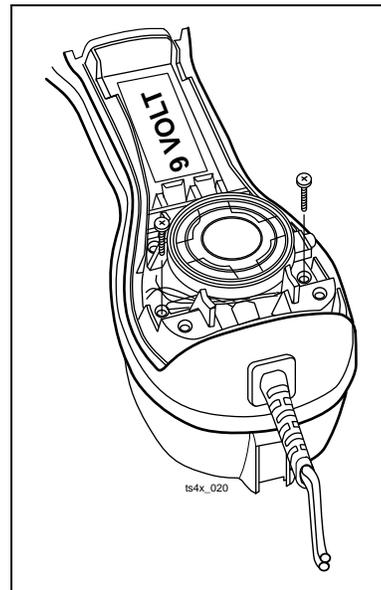

Figure 6. Removal/Installation of Line Cord Screws
3. Loosen the two screws that hold the line cord to the PCB (see Figure 6).